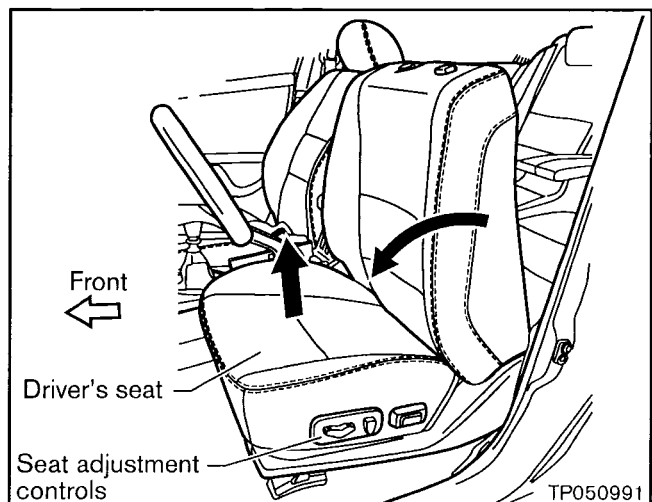

Figure 2
- b. Use the seat adjustment controls to lift the bottom seat cushion UP and tilt FORWARD the seat back (see Figure 2).